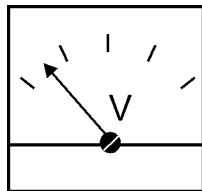
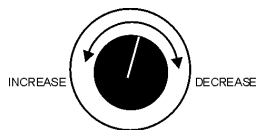

Figure 48. Voltage Meter (AC Volts)
Figure 49. Voltage Adjustment Control Knob
11. The generator's voltage meter (Figure 48) displays the 120VAC in VOLTS. If the voltage is not within the specified frequency tolerance, use the voltage adjustment control knob (Figure 49) to increase or decrease the desired voltage.